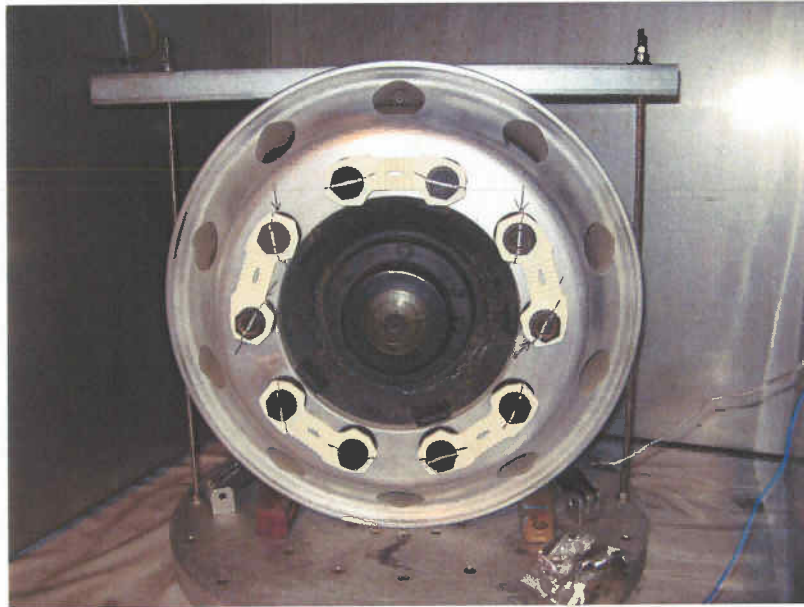
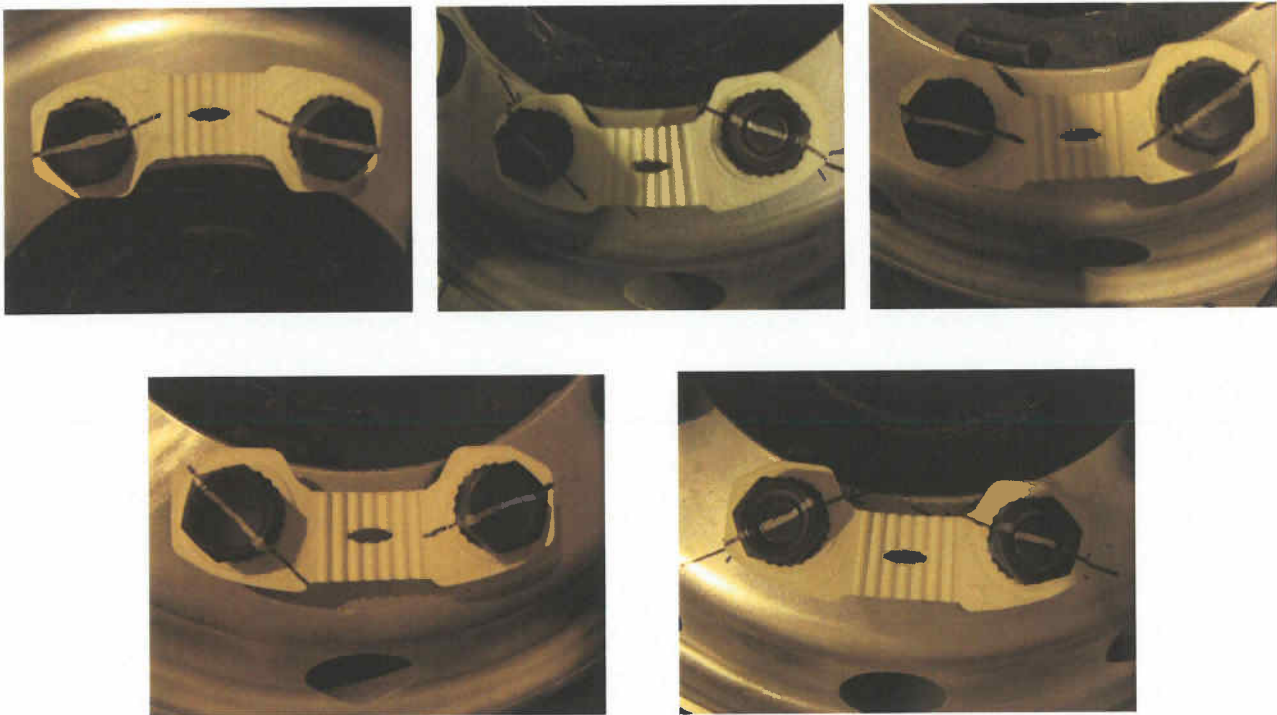

Figure 3A
Figure 4A
2. 26" Alloy Rim, after vibration testing at 120°C: Figure 3A and Figure 4A,